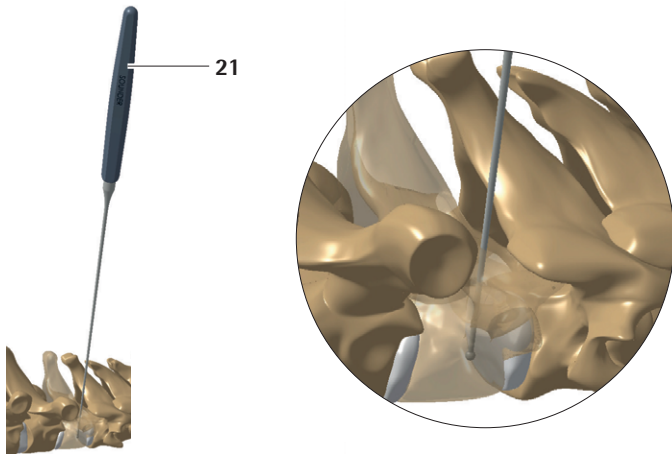

Fig. 13
- Use the sounder 21 (SZ066R) to confirm the depth of the prepared hole and the integrity of the wall, see Fig. 13.